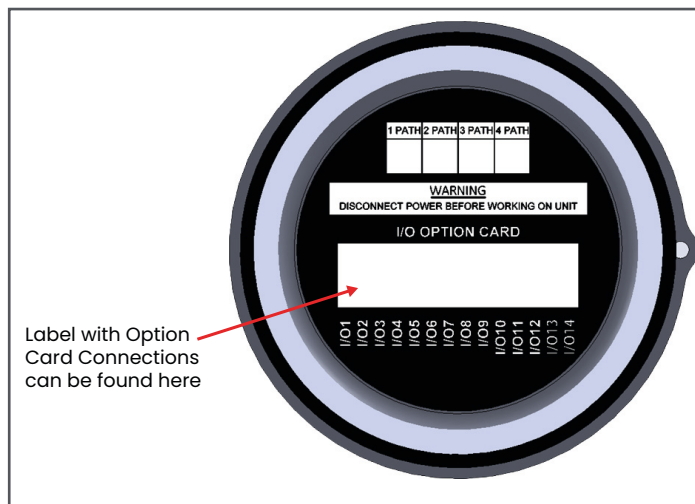

Figure 12: XGF1100 Rear Cover Label
5. Note the labels inside the rear cover to assist in wiring the IO option connections. See *Figure 12*.